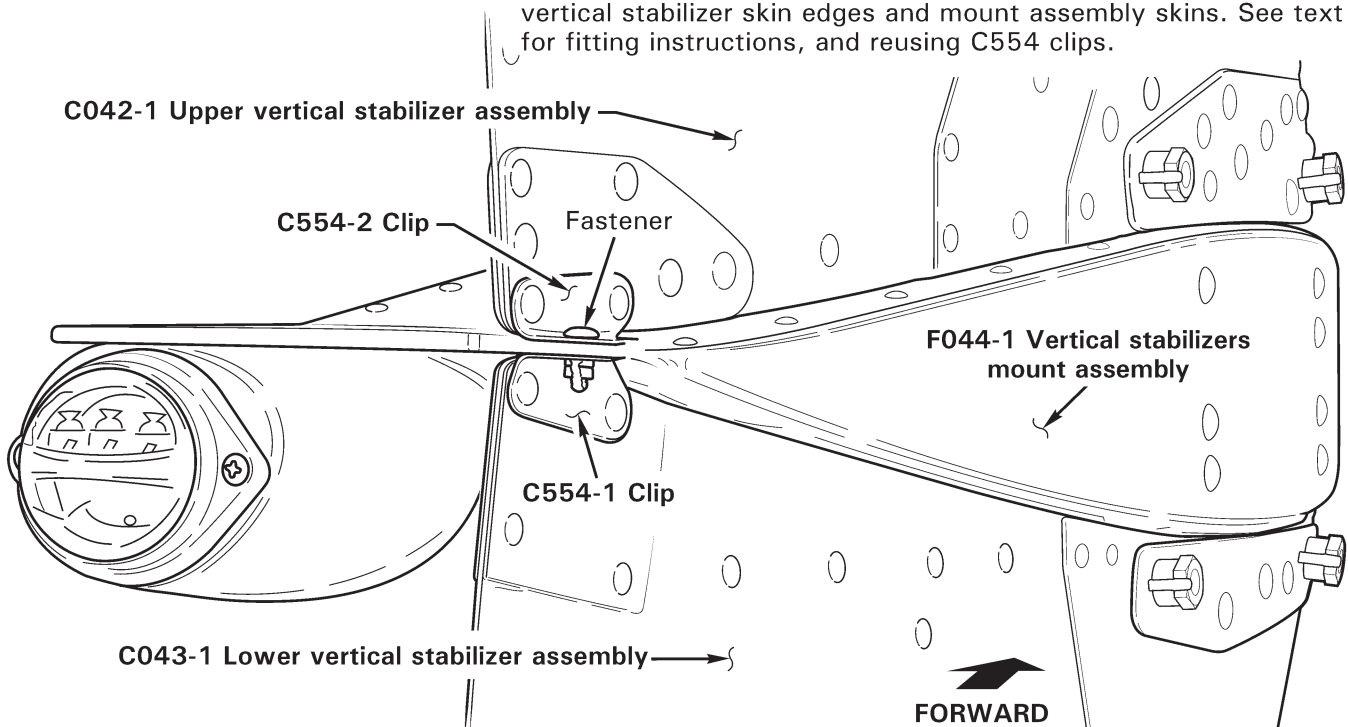

FIGURE 53-7 F004-2 EMPENNAGE ASSEMBLY – TAILCONE ASSEMBLY AFT BULKHEAD
3. Refer to Figure 53-7 or 53-7A. Supporting empennage assembly, remove hardware securing empennage to tailcone assembly aft bulkhead, and remove empennage.
1. Refer to Figure 53-7 or 53-7A. Position empennage assembly on tailcone assembly aft bulkhead.
1. Refer to Figure 53-7 or 53-7A. Remove fastener securing C554-1 & -2 clips to F044-1 vertical stabilizers mount assembly (or C044-1 or -2 horizontal stabilizer, if installed).
1. Refer to Figure 53-7 or 53-7A. Position C042-1 upper vertical stabilizer assembly on empennage assembly. Verify 0.030–0.120 inch gap between vertical stabilizer skin edges and F044-1 vertical stabilizers mount (or C044-1 or -2 horizontal stabilizer, if installed) upper skin. File vertical stabilizer skin edge(s) as required. Conversion coat & prime bare aluminum edges per §§ 20-51 & 20-60.
3. Refer to Figure 53-7 or 53-7A. Remove fastener securing C554-1 & -2 clips to F044-1 vertical stabilizers mount assembly (or C044-1 or -2 horizontal stabilizer, if installed).
1. Refer to Figure 53-7 or 53-7A. Position C043-1 lower vertical stabilizer assembly on empennage assembly. Verify 0.030-0.120 inch gap between vertical stabilizer skin edges and F044-1 vertical stabilizers mount assembly (or C044-1 or -2 horizontal stabilizer, if installed) lower skin. File vertical stabilizer skin edge(s) as required. Conversion coat & prime bare aluminum edges per §§ 20-51 & 20-60.